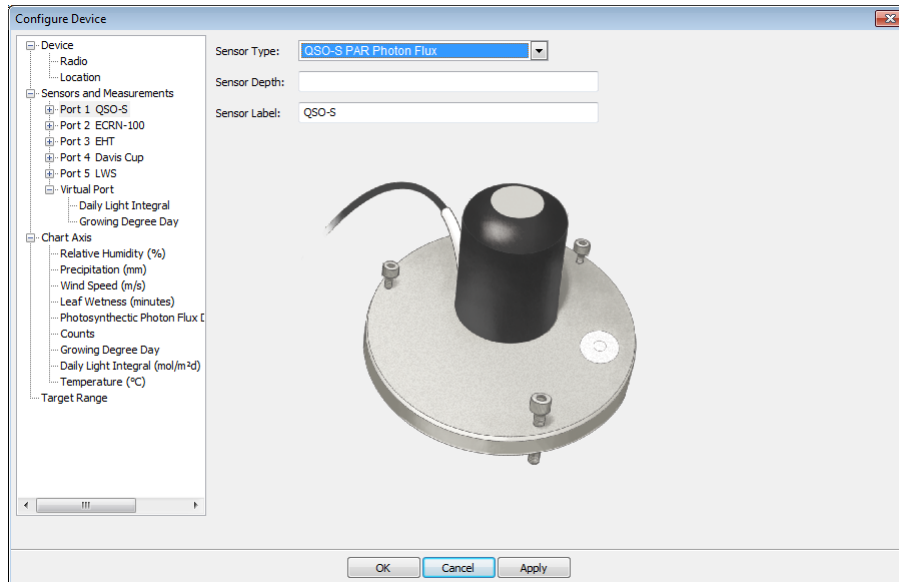

Figure 7. Photosynthetically active radiation (PAR) sensor is selected from the drop down list.
- Under “Sensors and Measurements”, click on Port 1 to Port 5 and select the corresponding sensor on the right (Figure 7).